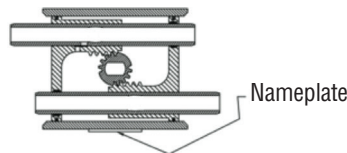

Figure: 3
14.2.7 Align the shaft so that the teeth on the shaft will “pick-up” the piston assembly’s rack teeth when turning the top extension of the shaft clockwise (CW). (See Figure 3).
IMPORTANT: Proper 90° rotation can only be ensured if the shaft teeth begin to mesh with the piston assembly’s teeth at the “proper tooth” between these meshing gear pairs. (See Figure 3).
IMPORTANT: Align gear teeth on the shaft as per Figure 3.